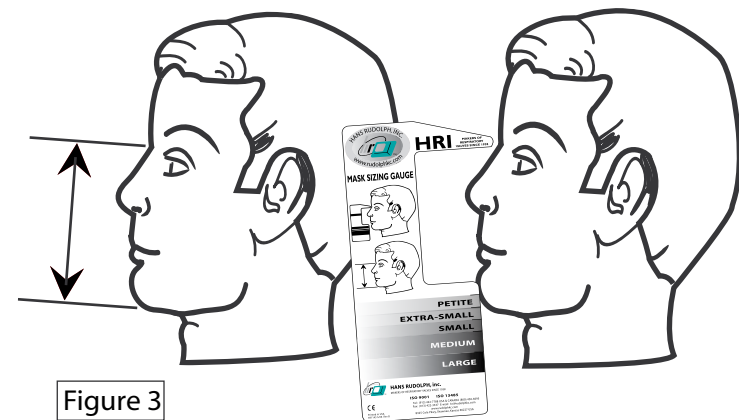

Figure 3
- c. Determine mask size of patient with a Mask Sizing Gauge (fig 3) provided to measure the patient's face and aid in selecting the best mask size. For sizing the patient's facial muscles should be relaxed and jaw closed. Fit the patient's chin in the chin cup section of the mask and slightly press the mask onto the face. The top of the mask should be slightly below the nasal root depression (where the nose meets the forehead).